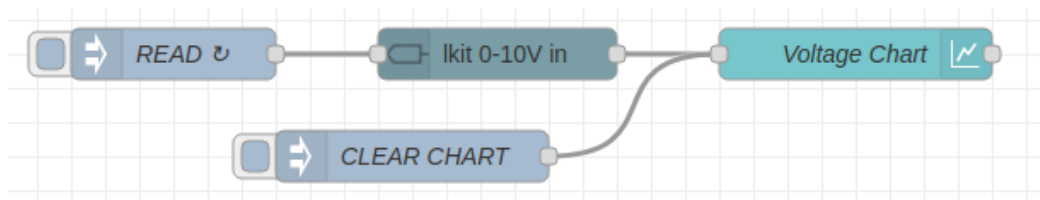

Figure 7-39: Clear Chart Example Flow
**Voltage Puzzle # 5 - Pushbutton Clear** – Modify the flow in Figure 7-39 so that you can use the push button on the Learning Card (or one of the OPTO inputs) to clear the chart.